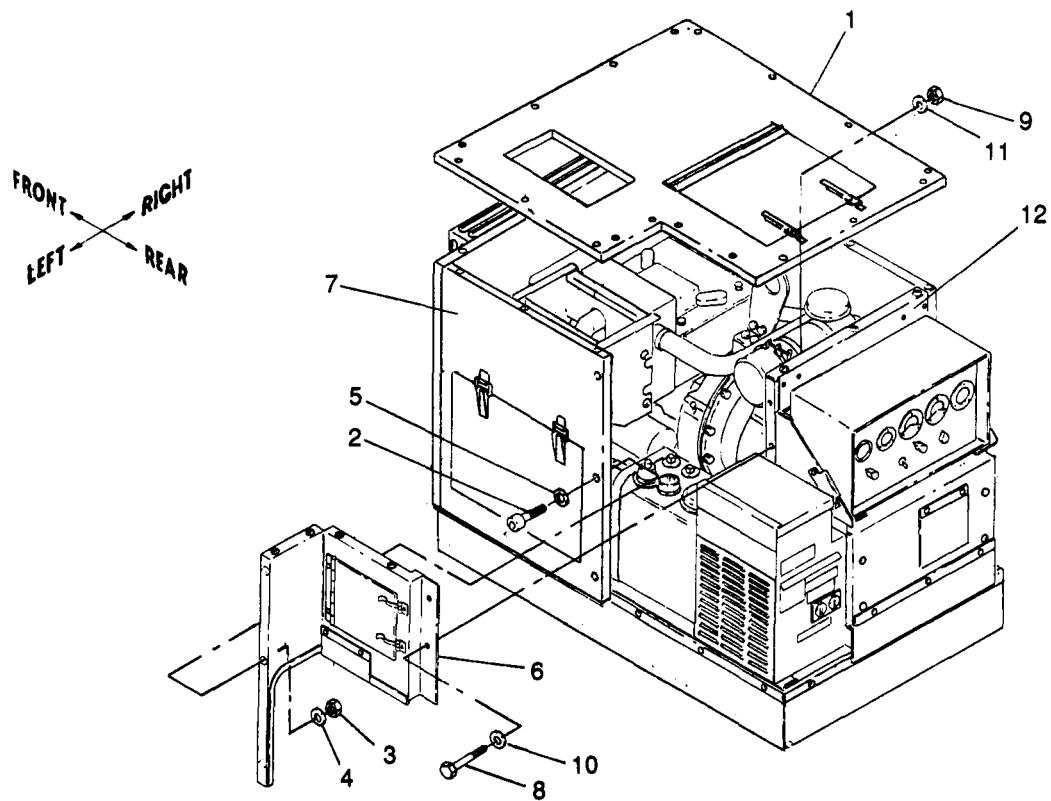

Figure 5-10. Side Closure Assembly, Removal and Installation
a. Removal. See figure 5-10. Remove side closure assembly from rear closure assembly, top and left panel assemblies as follows:
(1) Remove top panel assembly (1) as described in paragraph 5-4.
(2) Remove three screws (2) and locknuts (3) and six washers (4 and 5) securing side closure assembly (6) to left panel assembly (7).
(3) Remove two screws (8) and locknuts (9), and four washers (10 and 11) securing side closure assembly (6) to rear closure assembly (12) and remove side closure assembly (6).
b. Installation. See figure 5-10. Install side closure assembly to rear closure assembly, top & left panel assemblies as follows:
(1) Position side closure assembly (6) against rear closure assembly (12).
(2) Install side closure assembly (6) to rear closure assembly (12) using two screws (8) and locknuts (9), and four washers (10 and 11).
(3) Torque screws (8) to 16 ±2 ft-lbs dry.
(4) Install three screws (2) and locknuts (3) and six washers (4 and 5).
(5) Torque screws (2) to 16 ±2 ft-lbs dry.
(6) Install top panel assembly (1) as described in paragraph 5-4.
(4) Side Closure Assembly (refer to figure 5-10, item 6).